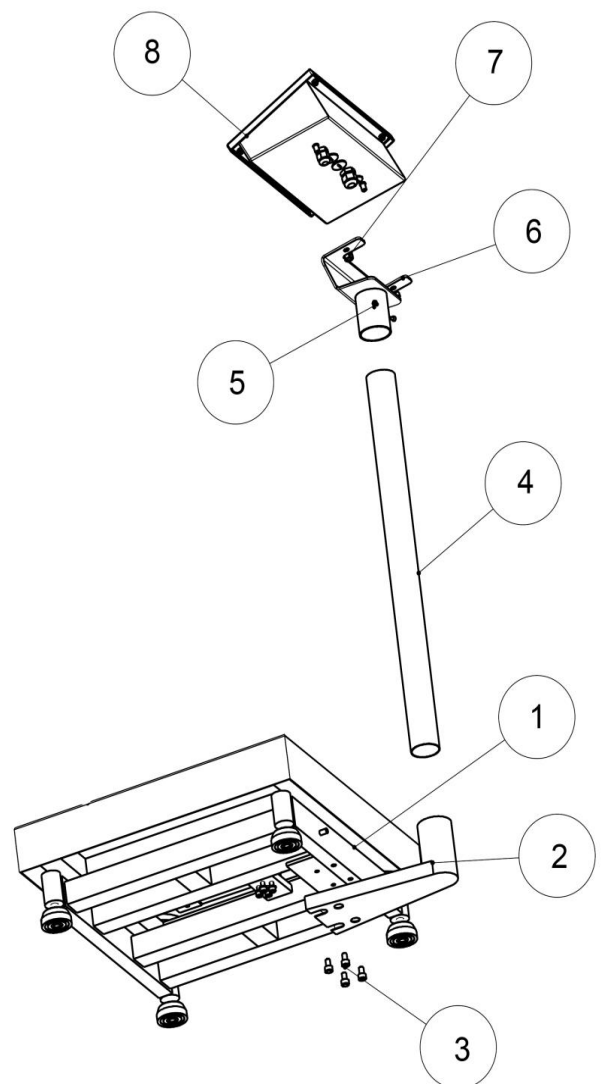

Fig.2
2.2 MONTAJE PBI+PBICL...+PBICLST+DFWLI (FIG.2)